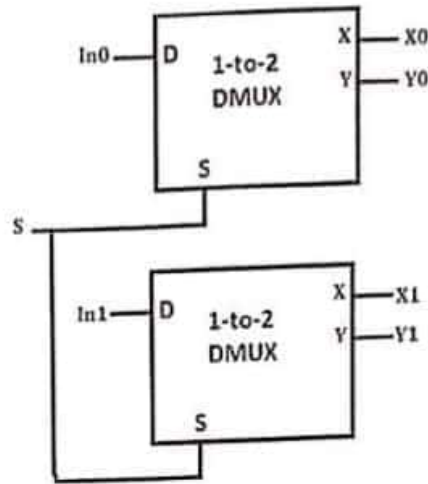

Figure 5. 1-to-2Dual DMUX
- d) Implement the **1-to-2 dual DMUX** using Verilog code **structurally** in a module named *dualdmux* inside the "dualdmux.v" file by instantiating two instances from the module *dmux1* according to Figure 5. This module should have 3 inputs (In1, In0, and S) and 4 outputs (Y1, Y0, X1, and X0).